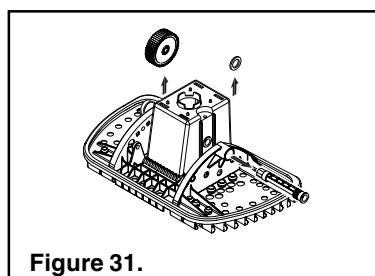

Figure 31.
7. Remove the Oscillator Sleeve, releasing the Oscillator Sleeve Bushing and the Clutch assembly, (see Figure 31).